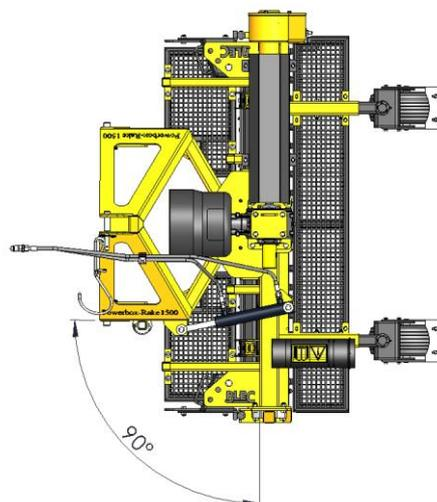

Figure 3
7. To adjust the working depth, the wheels **(2)** can be put higher or lower by dividing the rings differently **(3)**. Set the number of rings in the same way for both the left and right wheel. (Figure 3).